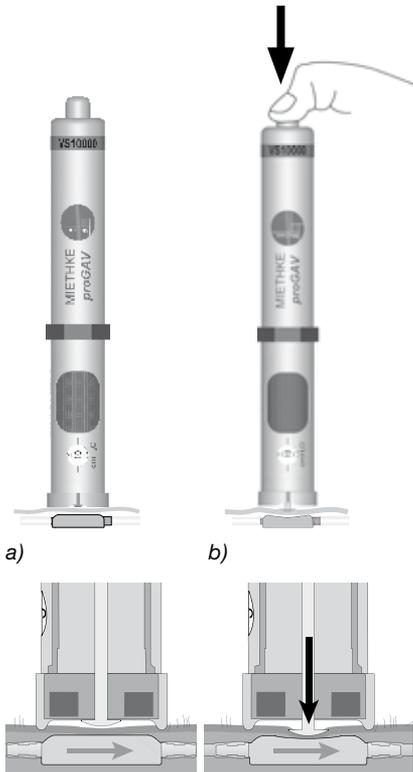

Fig. 17: Adjusting the pressure setting
5. As soon as the *proGAV ADJUSTMENT TOOL* has been positioned centrally on the valve, the button is pushed onto the valve and the adjustment tip appears. This triggers the mechanical decoupling and the valve setting is adjusted to the required opening pressure setting (fig. 17).